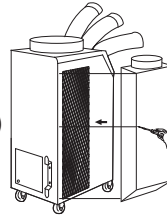

Figure 20
3. Use screws (enclosed inside of box with air adapter) to install the adapter on the air conditioner as shown in Figure 20.